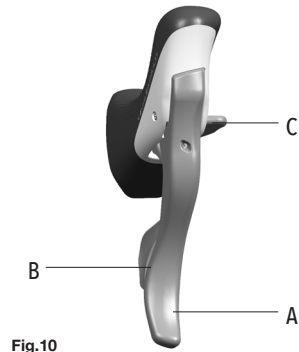

Fig.10
• Lever B (Fig. 10) on the right-hand control set operates the rear derailleur, lifting the chain onto the next highest sprocket.
• Lever C (Fig. 10) on the right-hand control set operates the rear derailleur, dropping the chain onto the next lowest sprocket.
• You can move levers B and C (Fig. 10) on the right control by several consecutive clicks to raise (maximum 3 sprockets) or lower (maximum 3 sprockets for Ergopower Ultra Shift) the chain in one movement.